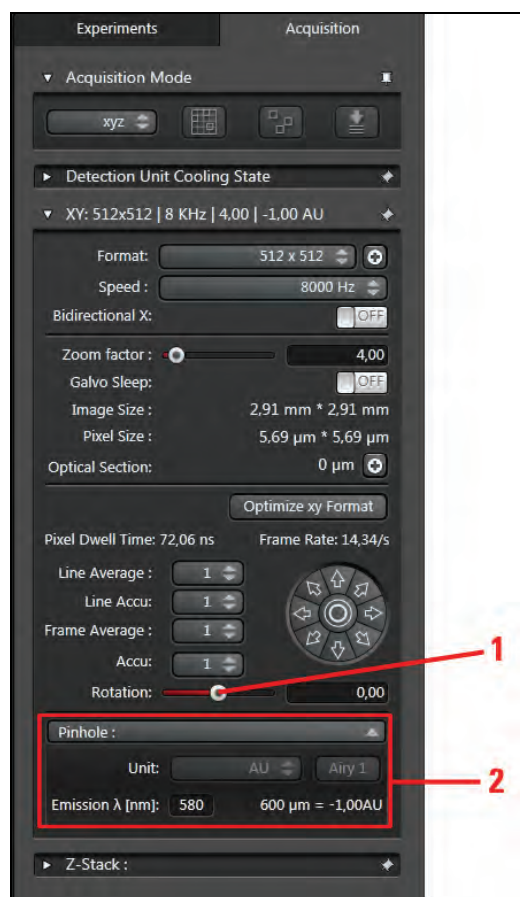

Figure 118: Adjusting the diameter of the pinhole and rotation of the scan field
5. Open the **Acquisition** tab and adjust the rotation of the scan field to 0° using the slider (**Figure 118, item 1**).
For VIS and UV excitation, set the **Pinhole** diameter to **1 Airy**; for MP excitation set it to the maximum size (**Figure 118, item 2**).